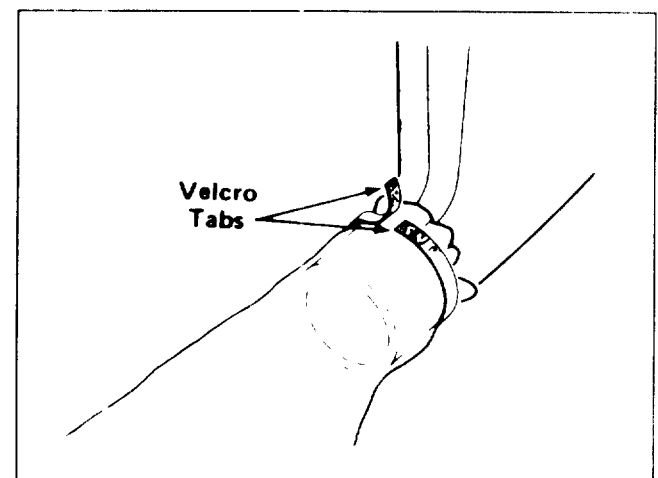

Figure 5
4. Fit opening of vac bag over outlet ribs on blower. Pull strap tightly to overlap velcro tabs (Fig. 5).